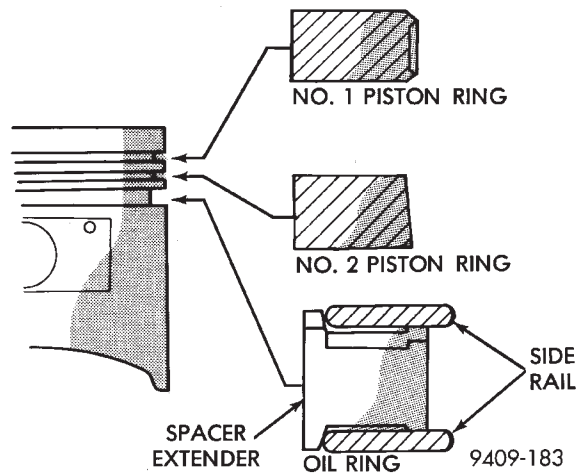

Fig. 90 Piston Ring—Installation
(1) The No. 1 and No. 2 piston rings have a different cross section. Install rings with manufacturers mark and size mark facing up, to the top of the piston (Fig. 90).